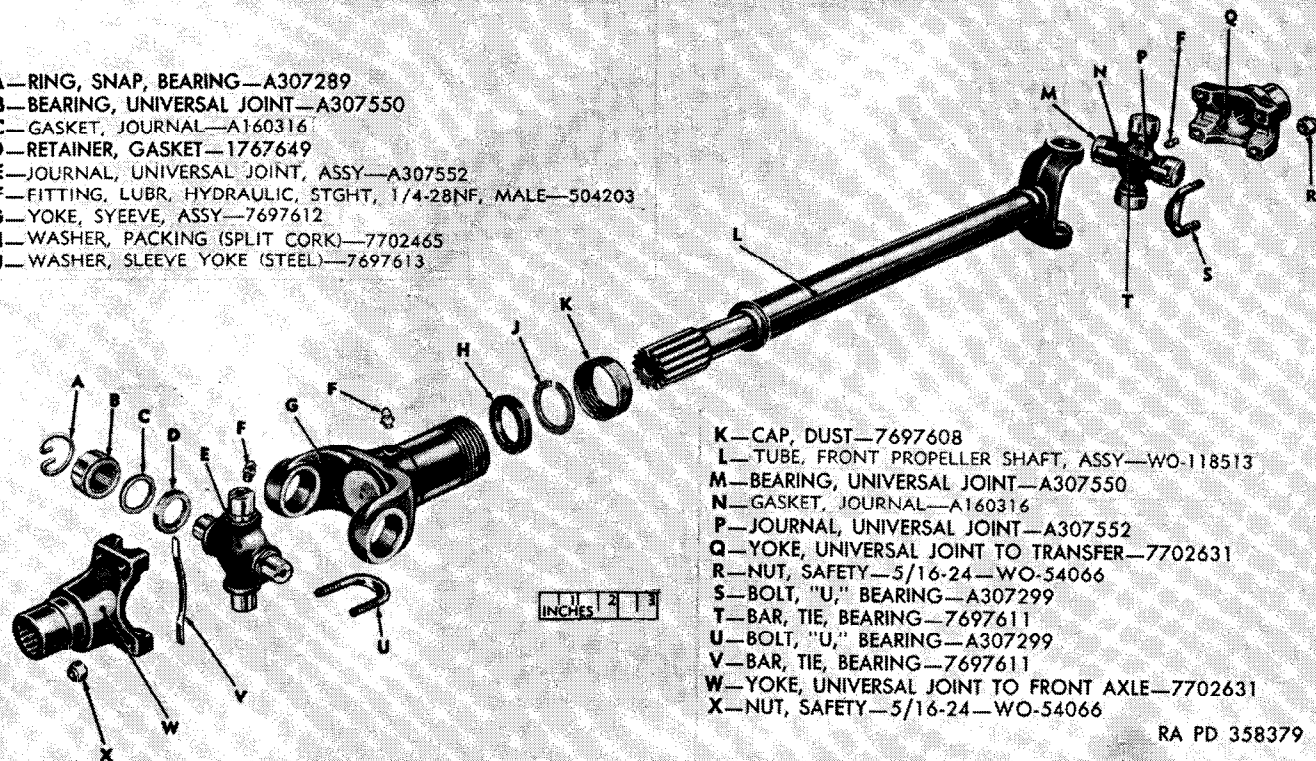
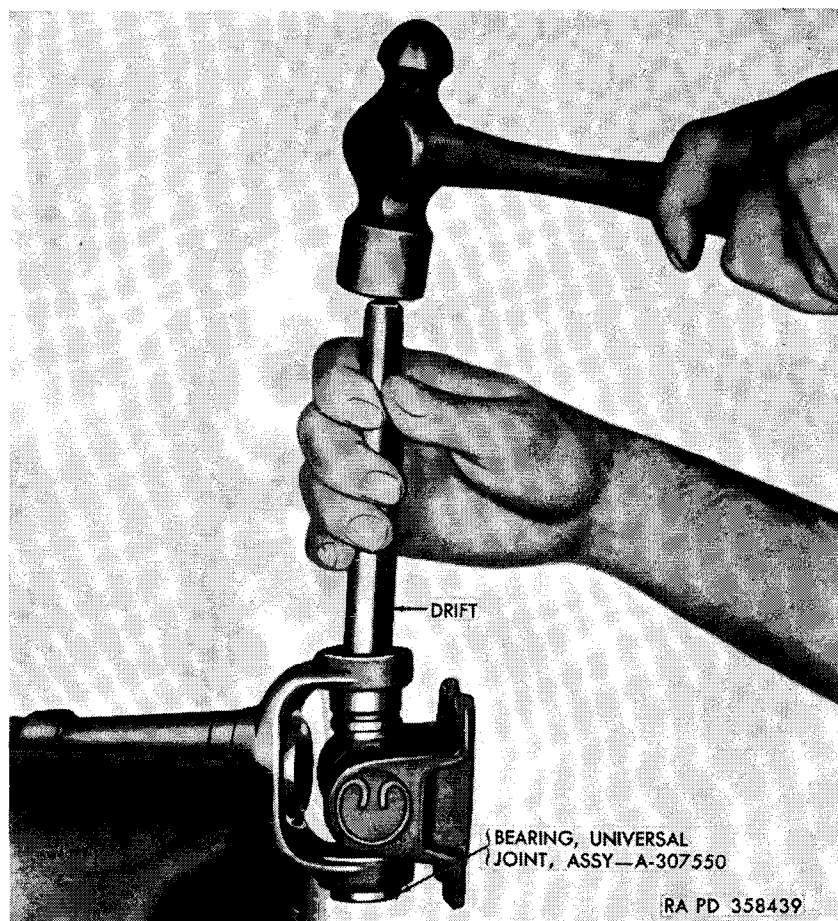

Figure 49. Front propeller shaft (U bolt type)—exploded view.
Figure 50. Removing universal joint bearing.
a. Front Propeller Shaft (fig. 49).
- (1) *Remove journal bearings from free ends of journal.* After the bearing U bolts (S and U) are disconnected and the propeller shaft is removed from the vehicle (par. 80), the only remaining item which holds the universal joint bearings at each end of the universal joint journal is a bearing tie bar (T and V), which is tack-welded to the side of each universal joint bearing (B and M). Cut this tie bar in half and remove the universal joint bearing (B and M), journal gaskets (C and N), and gasket retainers (D) from the universal joint journal (E and P) at either end of the propeller shaft.
- (2) *Remove universal joint journal from sleeve yoke (fig. 50).* Drive lightly on the end of a universal joint bearing until the opposite universal joint bearing is pushed out of the sleeve yoke flange. Turn the yoke assembly over in the vise and drive the first universal joint bearing back out of its lug, by driving on the exposed end of the universal joint journal. Use a brass drift with a flat face about $\frac{1}{32}$ inch smaller in diameter than the hole in the sliding yoke; otherwise there is danger of damaging the universal joint bearing. Repeat this operation for the other two universal joint bearings; then lift out the universal joint journal, sliding it to one side and tilting it over the top of the yoke.
- (3) *Remove sleeve yoke from front propeller shaft tube.* Unscrew the dust cap (K). Slide the sleeve yoke assembly (G) off the front propeller shaft tube. Remove the dust cap and split cork packing washer (H) from the front propeller shaft tube.
- (1) *Remove bearing snap rings from yoke on transfer end.* Place the propeller shaft in a vise and remove the bearing snap rings (B) that secure the universal joint bearings (C) in the rear propeller shaft tube assembly (M) with a pair of pliers. If the bearing snap ring does not snap out of the groove, tap the end of the universal joint bearing lightly. This will relieve the pressure against the bearing snap ring.
- (2) *Remove universal joint bearings on rear axle end.* Refer to a(1) above.
- (3) *Remove universal joint journal from sleeve yoke (fig. 50).* Refer to a(2) above.
- (4) *Remove sleeve yoke from shaft (fig. 49).* Refer to a(3) above.
- (1) *Install sleeve yoke on shaft.* Place propeller shaft tube in a vise. Slide the dust cap (K) on the propeller shaft tube. Place a new split cork packing washer (H) and sleeve yoke steel washer (J) in the dust cap. Slide the sleeve yoke assembly (G) on the propeller shaft tube splines, being sure that the sleeve yoke on the propeller shaft tube is in the same angle as the yoke at the opposite end of the propeller shaft tube. Thread the dust cap onto the sleeve yoke.
- (2) *Install universal joint journal in sleeve yoke (fig. 49).* Install the universal joint journal assembly (E) in either the sleeve yoke assembly (G) or the propeller shaft tube yoke at the opposite end. Tap one universal joint bearing (B), journal gasket (C), and gasket retainer (D) approximately one-quarter of an inch into the sleeve yoke. Place the other universal joint bearing and journal gasket into the opposite side of sleeve yoke and tap until top of the universal joint bearing is in line with the bearing snap ring groove. Install the bearing snap ring (A) in this side. Then tap opposite universal joint bearing in place and install bearing snap ring.